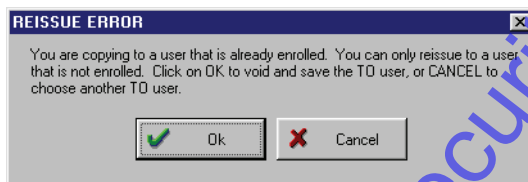

Figure 4-47: Reissue Error
- If you selected a TO row that is already in use by another active user, the reissue error window appears (see Figure 4-47).